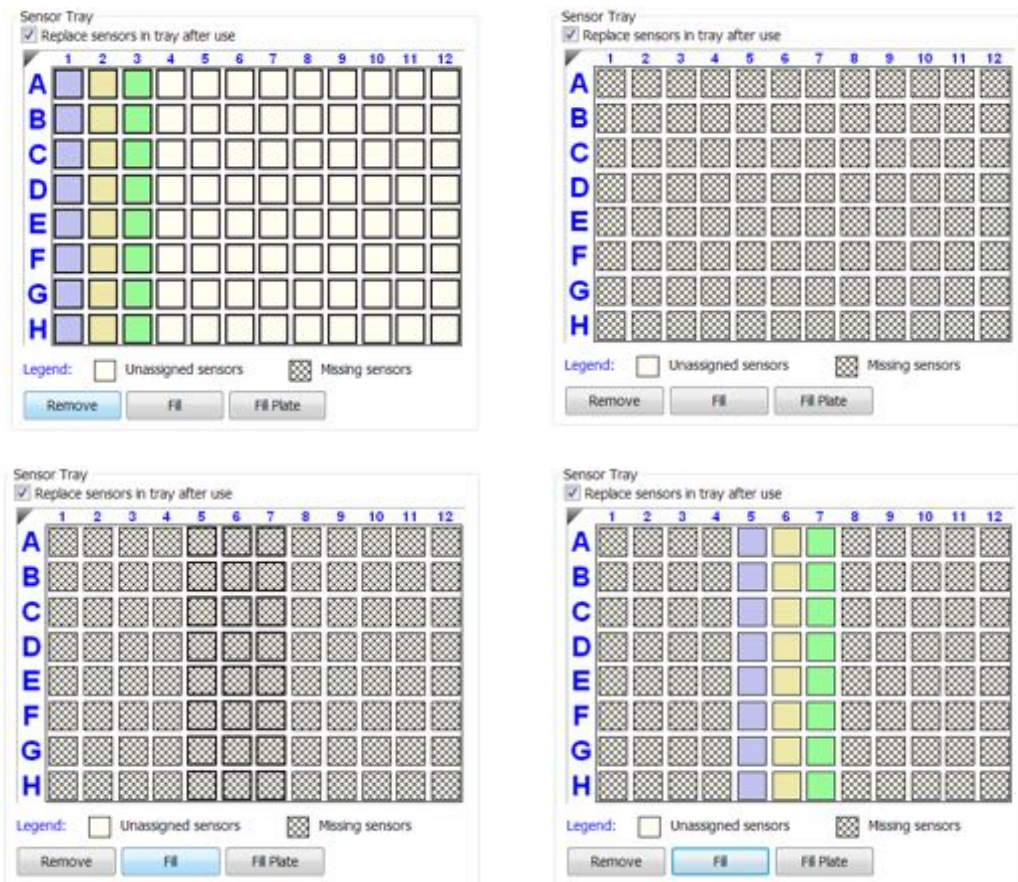

Figure 9-47: Changing Biosensor Location (Method 2)
- In the **Sensor Tray Map**, select all of the columns and click **Remove** (Figure 9-47 top left). Or, right-click the selection and select **Remove**. All columns will be shown as **Missing** (Figure 9-47 top right).
- Select the column(s) to use and click **Fill**. Or, right-click the selection and select **Fill** (Figure 9-47 bottom left). The software fills the selected columns in the tray (Figure 9-47 bottom right).